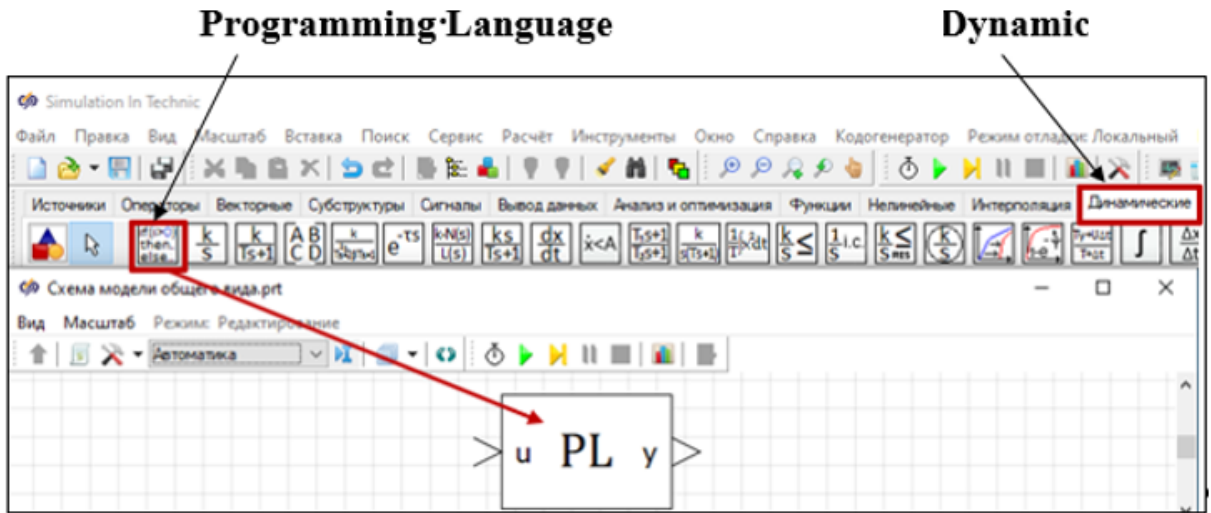

Figure 7
3. A program in the SimInTech programming language can be linked to a specific block of the schematic project window by selecting the left mouse button (LMB) in the **Block Palette Area** on the tab **Dynamic (Динамические)** block **Programming Language (Язык программирования)**. Then move the cursor to the desired location of the project window, and click the LMB to specify the place where the block is inserted (Figure 7).
As a result, the input and output ports of the **Programming Language** block are formed (Figure 7). The signal received at the input of the unit is transmitted unchanged to its output.
Figure 12 shows how the appearance of the **Programming Language Block** in the project window has changed compared to the appearance of this block in Figure 7.